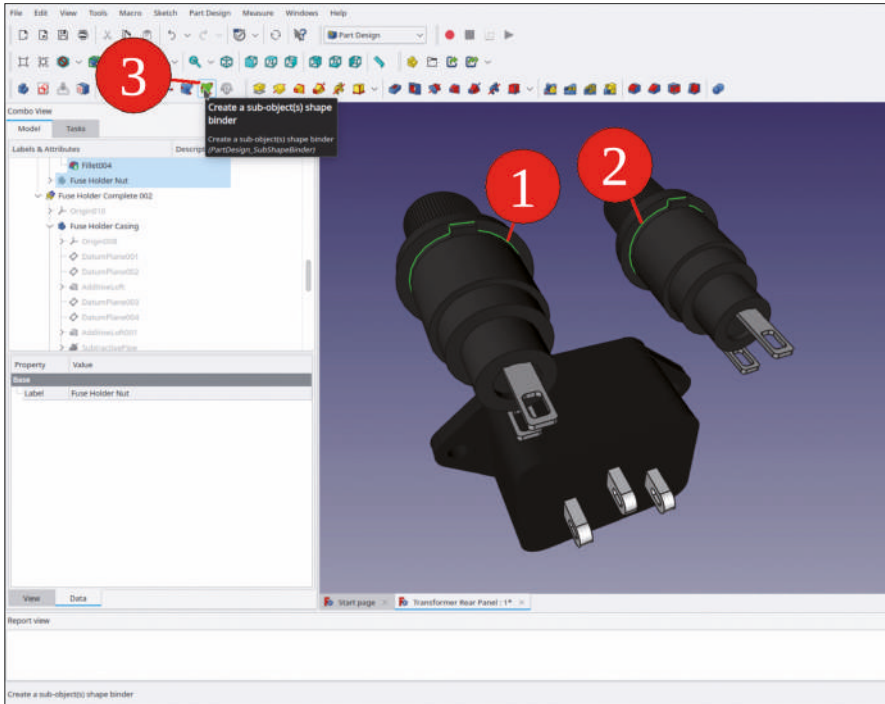

Figure 9-46
7. In the 3D view, hold down the CTRL key and select all edges on the two fuse holders which define the cutout in the panel (Figure 9-46). Then, click the green 'Create a sub object(s) shape binder' tool button.
4. To control the position of the front panel, create a datum plane: Show the coordinate system of 'Chassis Sheet' with the SPACE bar. In the 3D view, mark the XZ plane. Then, click the 'Create a datum plane' tool button. In the task window, the attachment mode 'plane face' is already preset. Enter an attachment offset Z value of 65 mm (Figure 9-46). Note: A Z offset designates here a shift parallel to the normal vector of the plane, not the Z coordinate direction. Close the task window with the 'OK' button.